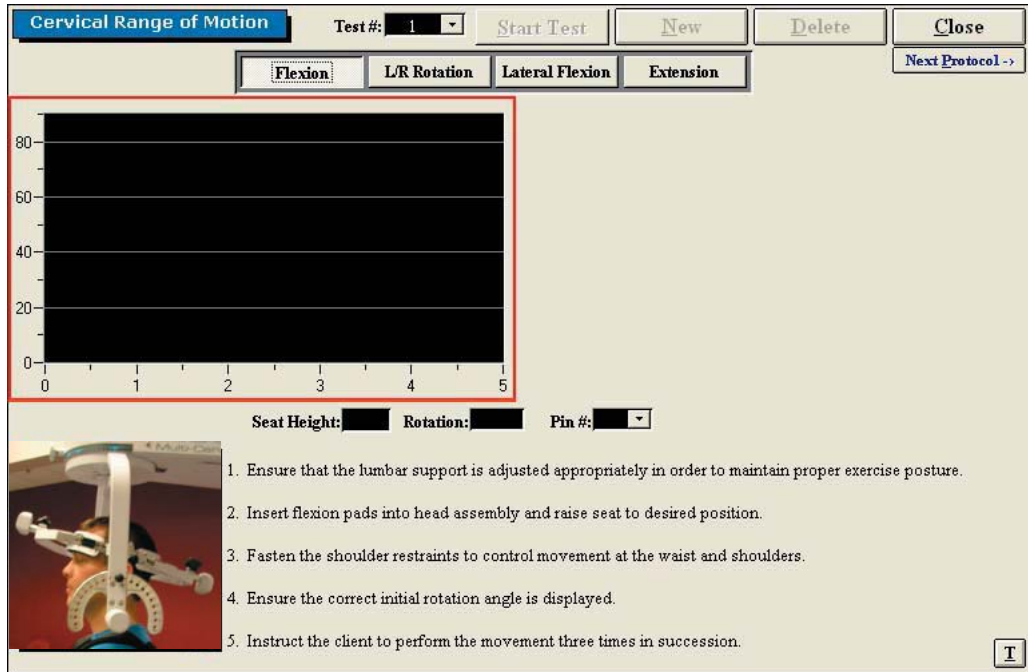

Figure 6-25. Cervical ROM - Flexion Test
Step 1. Select the **Flexion** icon. The Flexion Testing screen will appear (Figure 6-25).